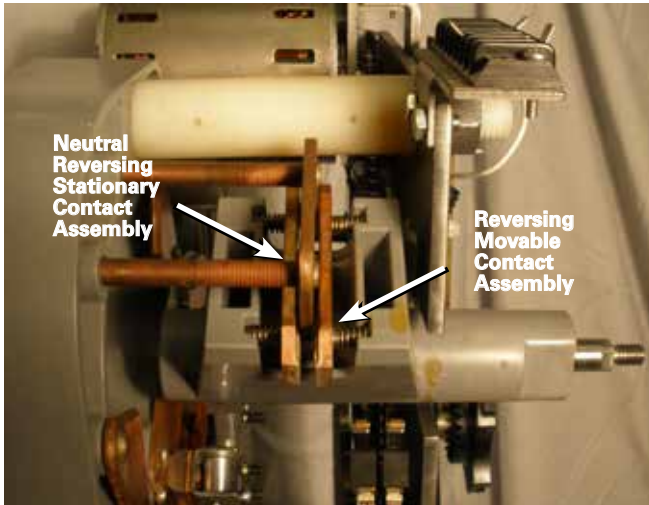

Figure 10. Reversing movable and stationary contacts.
- Pull the reversing movable contact assembly and the reversing neutral stationary contact forward toward the steel front panel as far as possible. See Figure 10.